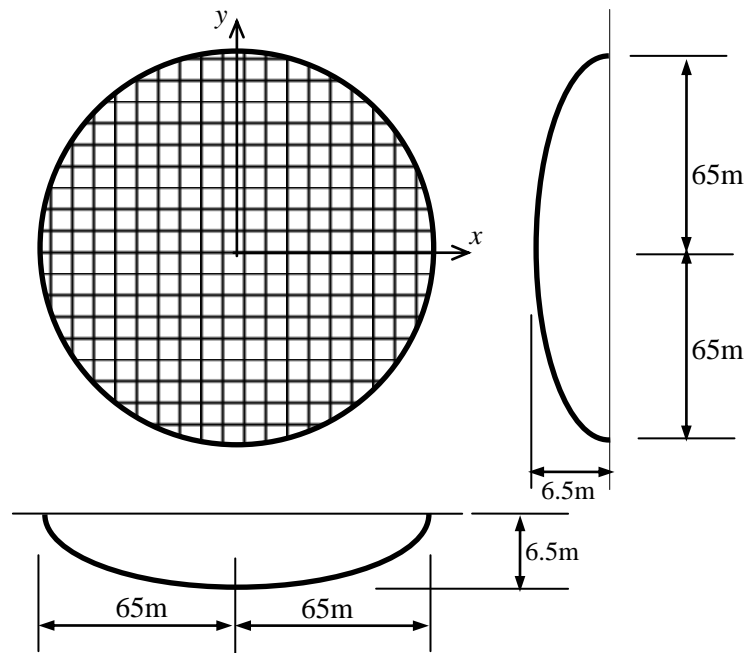

Figure 5
4. (c) Figure 5 shows a proposed tensioned roof covers a circular area with diameter of 130 m. Dead and live loads of 0.9 kN/m^2 each are assumed for preliminary design investigation. Calculate the minimum tensile capacity required for the roof. If the roof is to be constructed using fabrics, determine the minimum ultimate tensile strength required if the factor of safety required is 4. (10 marks)